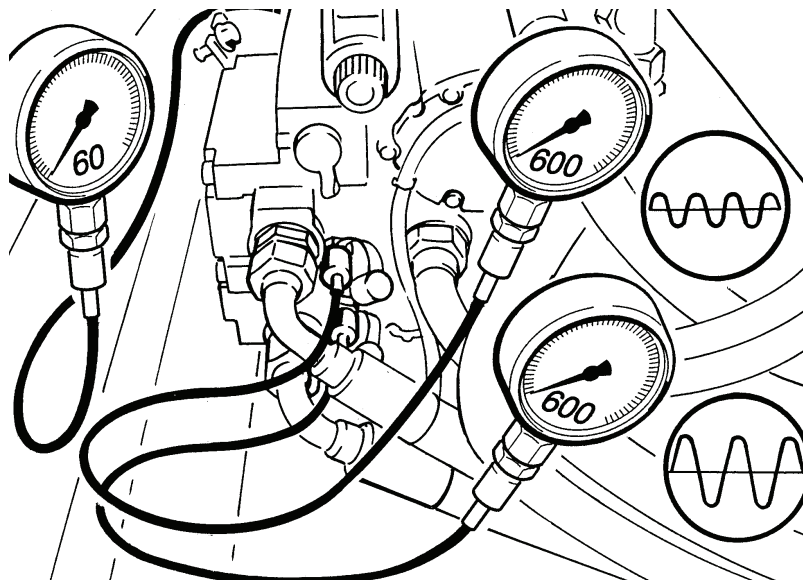

Fig. V2:
- Check the vibration pressures, see Fig. V2